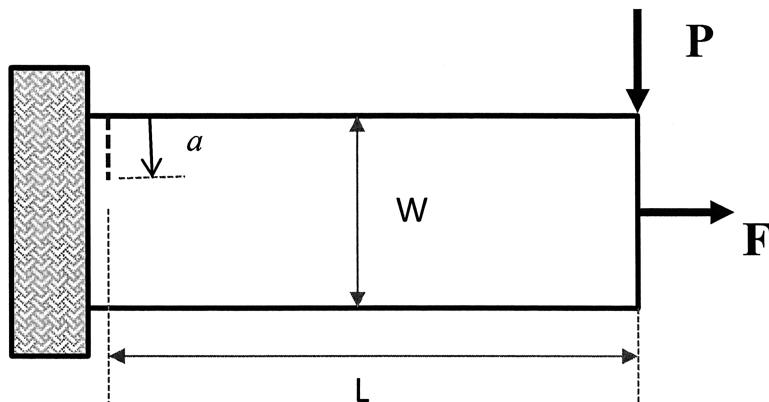

Figure 3: An edge crack in a finite width plate.
- 2(a) A cantilever beam plate structure is subjected to a tensile load, F , and a bending load, P , applied at the free end as shown in Figure 3. After non-destructive test inspection, an edge crack of length, a , was found on the top surface at a distance of L , from the free end.